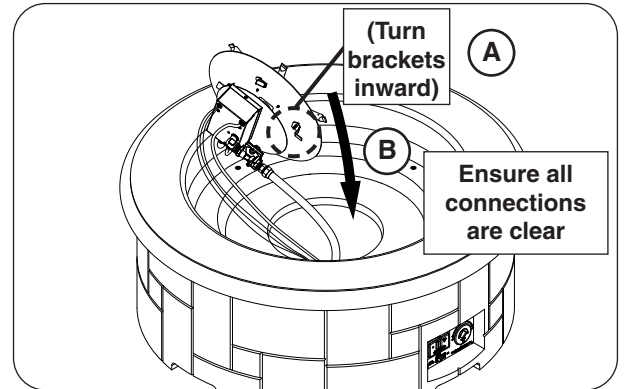

Fig. 31-2 Insert burner assembly
1. Ensure that the four or eight burner brackets are turned inward, then insert the burner assembly (see Fig. 31-2, A-B).